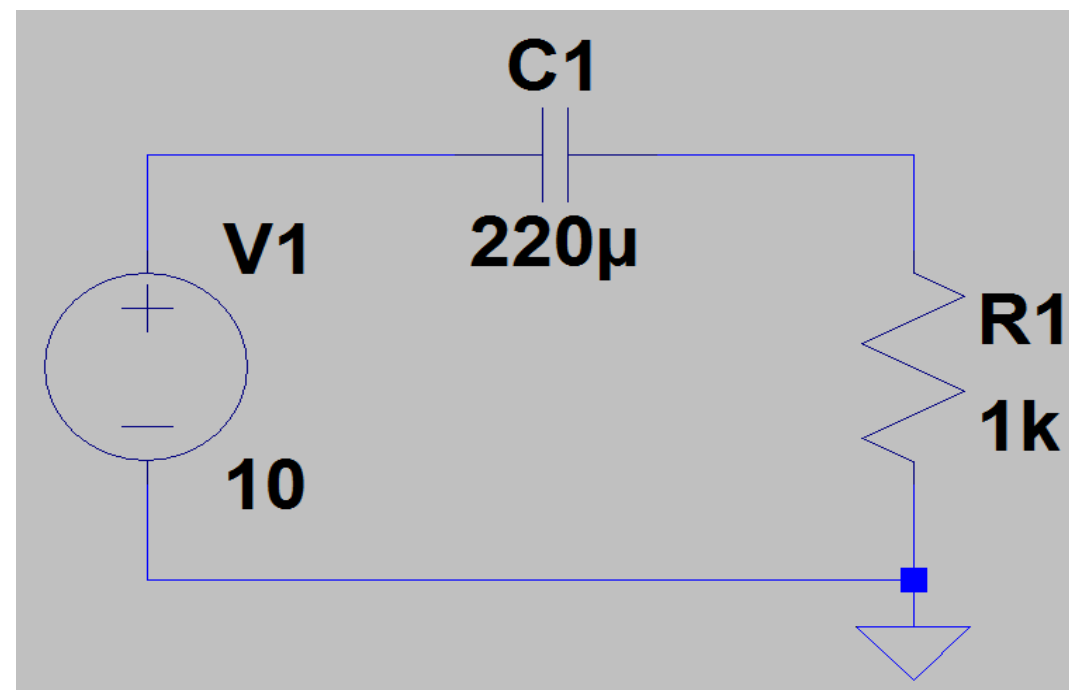

Figure 2: A simple R-C circuit.
- Transient analyses will become much more important later in the term when we look at resistor- inductor (RL) and resistor-capacitor (RC) circuits, shown in Fig. 2. One of the things we will learn is that the time constant, τ , of such circuits is given by
- Can you use what you have learnt about LTSpice to implement the circuit shown in Fig. 2 and find what percentage this is?